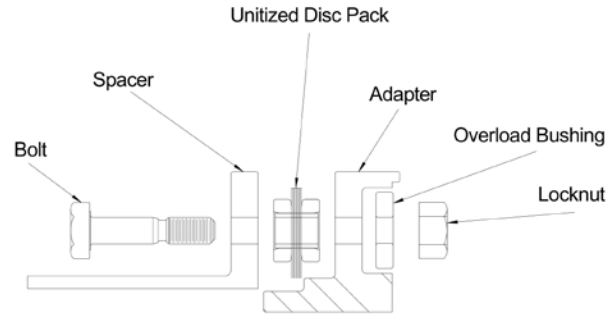

Figure 10B
- 9.11 Install the disc packs to the spacer first so that the bushing heads in the disc pack line up with the bolt holes in the spacer flanges as shown in Figure 10B